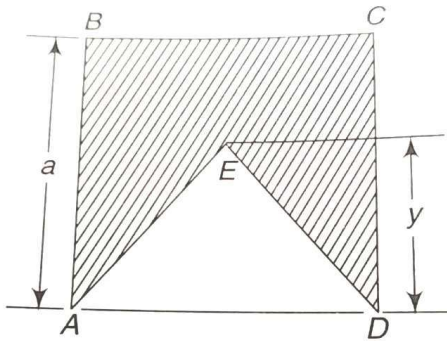

Figure 3.10
10. An isosceles triangle ADE is to be cut from a square ABCD of dimension a as shown in Figure 3.10. Find the altitude y of this triangle so that its vertex E will be the centroid of the remaining shaded area.